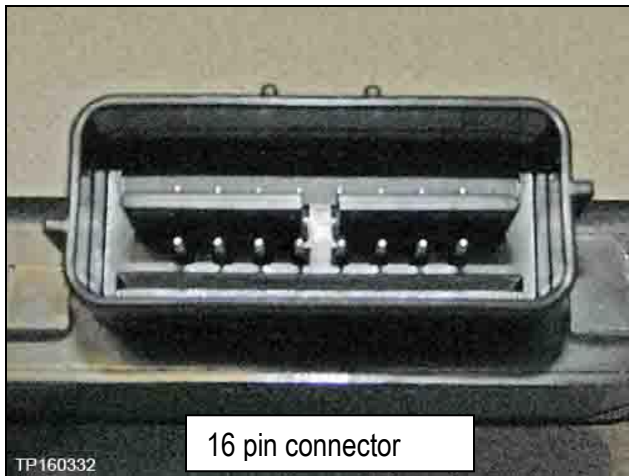

Figure B1
(1) Confirm that the number of pins of the new part are the same as the original (see Figures B1 and B2 below).